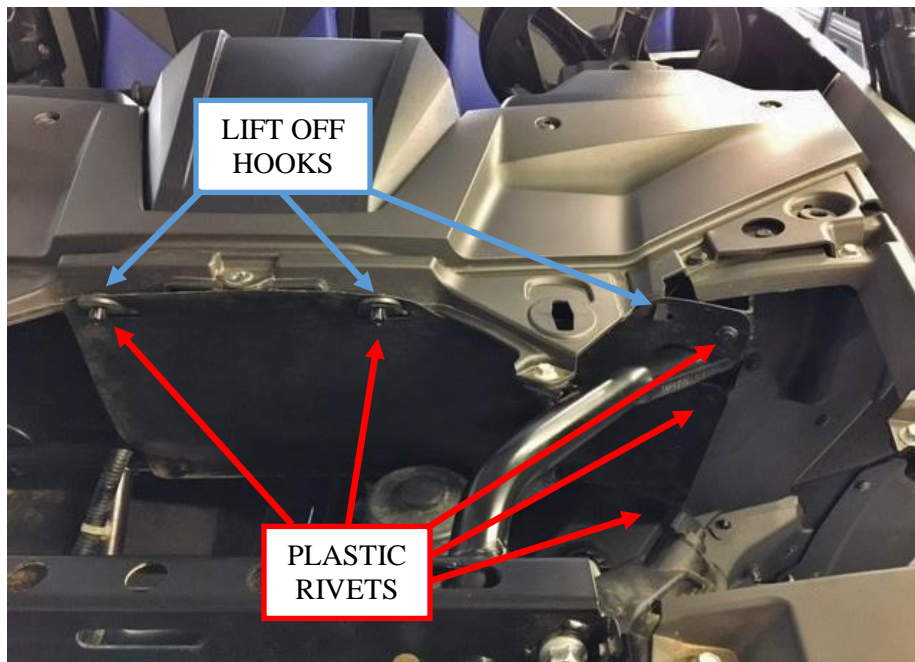

Figure 12: Remove the rivets to fold the rubber splash shield.
10. Under the hood, fold down the rubber splash shield by popping out five of the plastic rivets and lifting it off of the three hooks. The plastic rivets are released by first prying the center head up, then pulling the entire rivet out. See Figure 12.